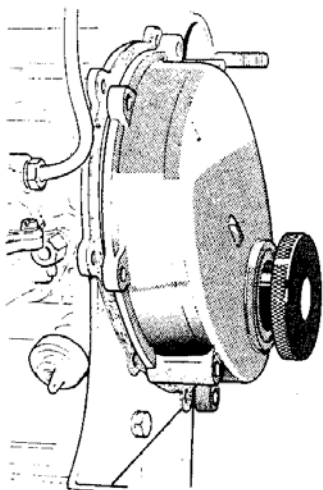

Figure 12 Centralising front cover
3. Check the valve timing, ensuring that the timing mark on the camshaft sprocket aligns with the woodruff key on the crankshaft (Figure 12).